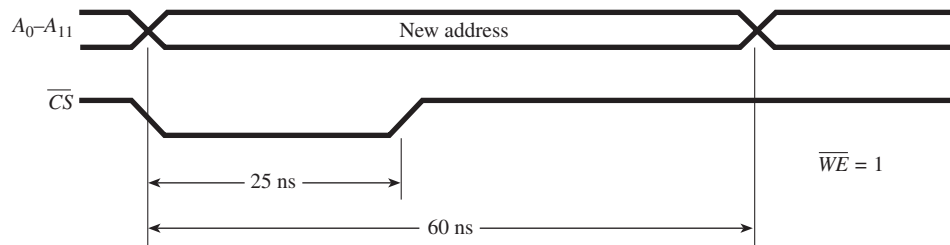

Figure P16-13
- T** 16-13. When troubleshooting the memory system in Figure 16-7, you keep reading incorrect values at D_0 to D_7 . Using a logic analyzer, you observe the waveforms of Figure P16-13 at A_0 to A_{11} and CE . What is wrong and how would you correct it?